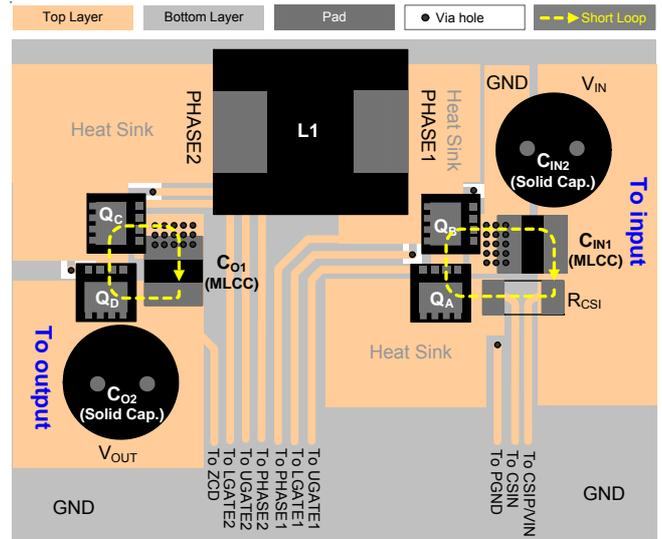

Figure 7. Recommended PCB layout of the power stage
- ▶ Figure 7 is a recommended placement of the PWM Buck-Boost power-stage. Two critical current-loop paths “from $C_{IN1} \rightarrow R_{CSI} \rightarrow Q_A \rightarrow Q_B$ to C_{IN1} ” and “from $C_{O1} \rightarrow Q_D \rightarrow Q_C$ to C_{O1} ” must be as short as possible to minimize the switching noise at CSIP/VIN, CSIN, PHASE1, PHASE2 and ZCD pins. The shorter paths also help to reduce radiated EMI. It is necessary to use an MLCC ($10\mu F/50V, X5R/X7R$) for the input capacitor (C_{IN1}) and output capacitor (C_{O1}). For reducing the input and output voltage ripples during heavy load operation, it is recommended to add more MLCCs or solid input and output capacitors. Moreover, to improve heat dissipation, one needs to increase the PCB areas for Drains of high-side and low-side MOSFETs.